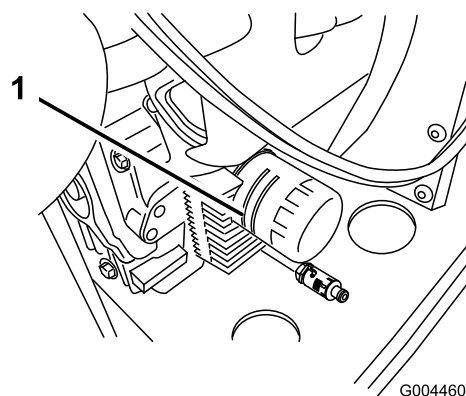

Figure 31
2. Remove the old filter and wipe the filter adapter gasket surface (Figure 31).